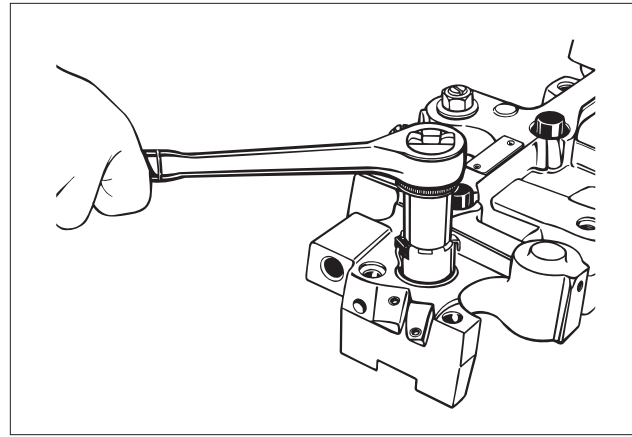

FIG. 32
1. Disconnect the solenoid harness. Using a 3/4" socket and extension, unscrew the solenoid valve (see Fig. 32).